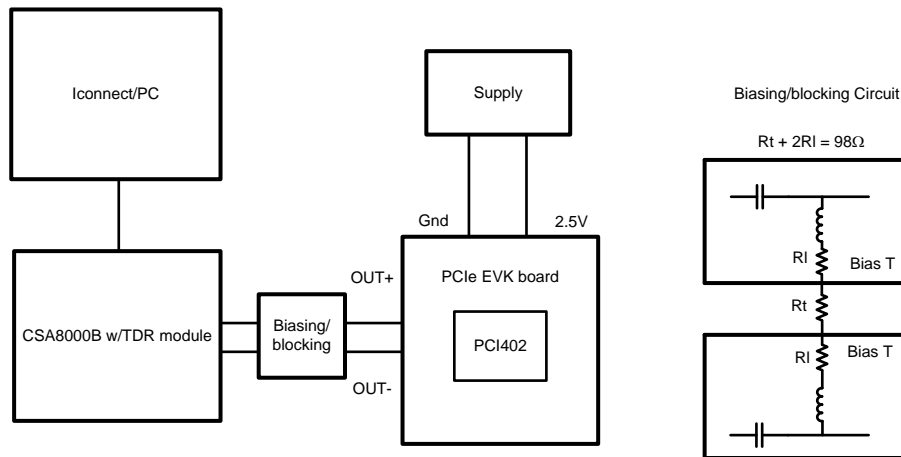

Figure 6. Input and Output Return Loss Setup
(1) Typical values represent most likely parametric norms at V_{DD} = 2.5V, T_A = 25°C., and at the Recommended Operation Conditions at the time of product characterization and are not ensured.
(2) The Electrical Characteristics tables list ensured specifications under the listed Recommended Operating Conditions except as otherwise modified or specified by the Electrical Characteristics Conditions and/or Notes. Typical specifications are estimations only and are not ensured.
(3) Measured with DEM Select pins configured for 1000mV VOD, see De-emphasis table.
(4) Input edge rate for LVC MOS/FLOAT inputs must be 50ns minimum from 10-90%.
(5) Input Return Loss also uses the setup shown in Figure 6. The blocking / biasing circuit is replaced with a simple AC coupling capacitor for each input to emulate a typical PCIe application.
(6) Measured at package pins of receiver. Less than 40mV is IDLE, greater than 175mV is ACTIVE. SD_TH pin connected with resistor to GND overrides this default setting.